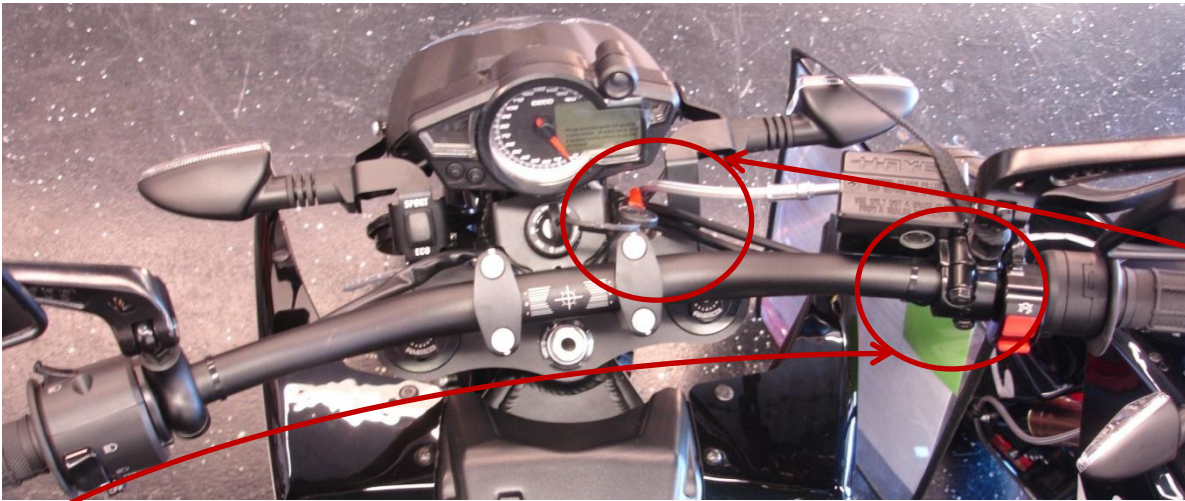

Figure 4
6. Note the location of the two cable ties in FIGURE 4. These cable ties are to be severed upon removal of the front brake switch in question.
7. Snip the two cable ties securing the brake light switch wires. See FIGURE 4, 5 and 6 for details